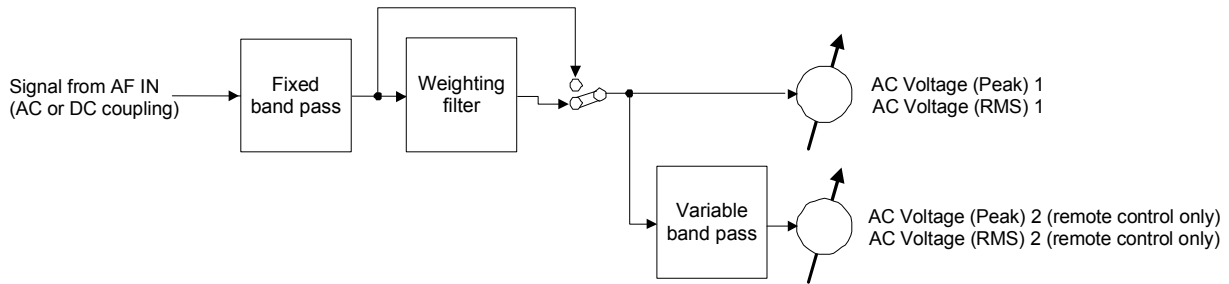

Fig. 4-39 AF analyzer input path configuration
- Peak 1/2* Peak value of the AC component of the measured AF signal in V. The numbers 1 and 2 denote two different input paths for AF signals with different filter configuration; see Fig. 4-39 on p. 4.76.
**Bandpass** The *Bandpass* section sets the bandwidth of the fixed band pass (see Fig. 4-39 above).
The *Weighting* section selects a weighting filter to be switched into the AF signal path after the fixed band pass (see Fig. 4-39 above).
**Note:**        *The variable band pass settings affect the results for AC Voltage (Peak) 2 and AC Voltage (RMS) 2 only (see Fig. 4-39 above). These quantities are available in remote control but not displayed in the Analyzer/Generator menu.*